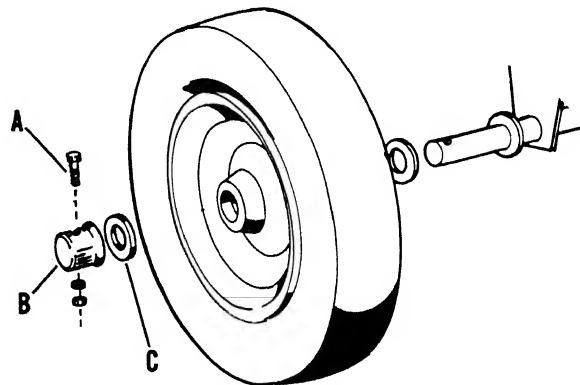

FIGURE 8
24. Wheels (Fig. 8)
Reference for Fig. 8